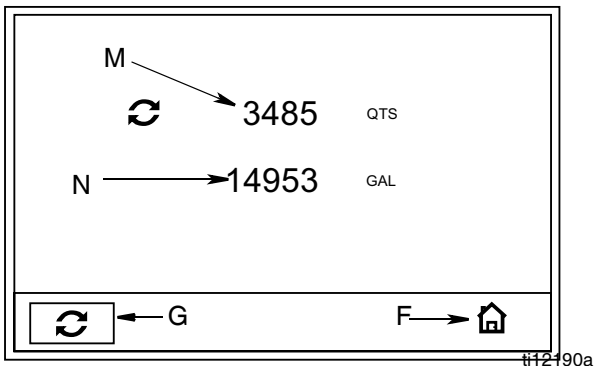

FIG. 26
Totals Screen (FIG. 26)
See FIG. 26 for terms F, G, M - P
2. Press center, ENTER button to confirm selection. The Totals screen (FIG. 26) appears.
3. To reset Resettable Total field (M) to zero, use LEFT or RIGHT ARROW to move cursor over RESET button (G).